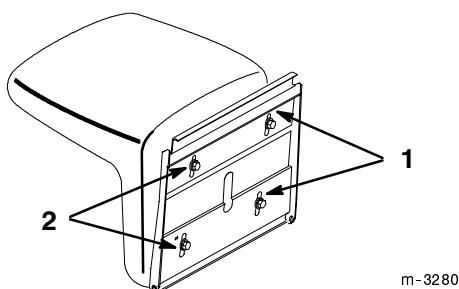

Figure 17
2. Loosen the seat mounting bolts slide seat to the desired position in the adjusting slots and tighten the mounting bolts (Fig. 17).